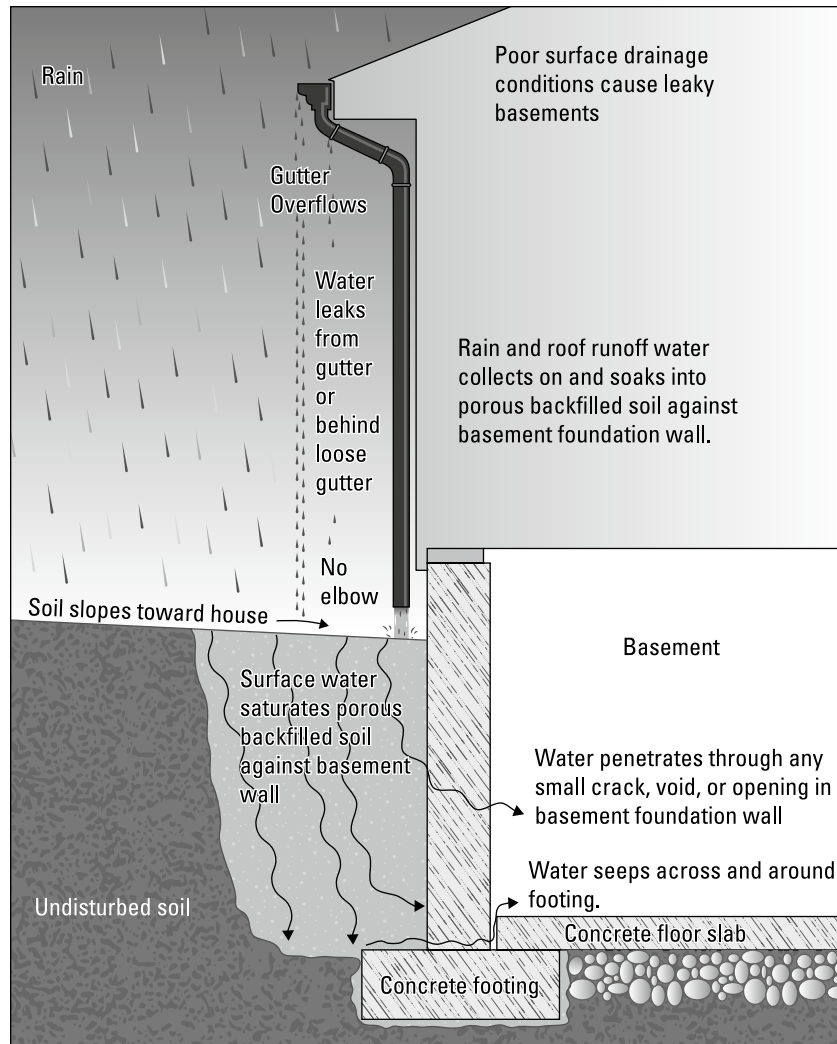

FIGURE 4-6: Clogged gutters and grade sloping toward the house allow water to collect and leak into the basement.
- » **Clogged gutters:** The season is called Fall for a reason! Leaves, pine needles, and other tree droppings, along with the occasional tennis ball, regularly clog gutters. When that happens, gutters overflow, dumping all the rain that Mother Nature has to offer right along your foundation wall, where it has nowhere else to go but down and into your basement or crawlspace. (See Figure 4-6.)